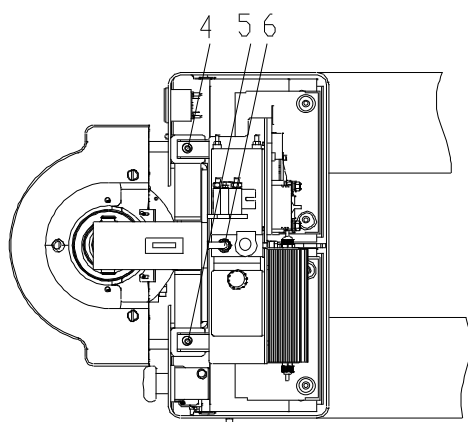

Fig 8
- (Fig 8) loose screw4、5, then remove oil tube connector 6;